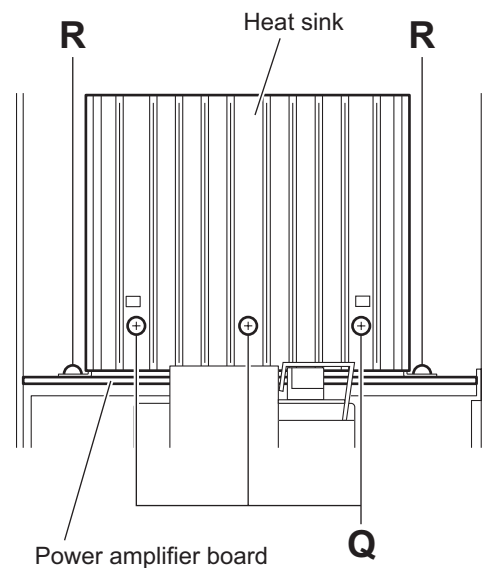

Fig.21
- (2) From the back side of the main body, remove the three screws **Q** attaching the heat sink to the power amplifier board. (See Fig.21.)
- (3) From the top side of the main body, remove the two screws **R** attaching the heat sink to the power amplifier board. (See Fig.21.)